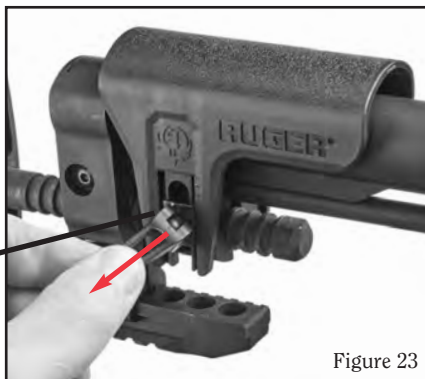

Figure 23
2. Next, remove the cam lever, spring, and washer from the other side of the cheek piece (see Figure 23).